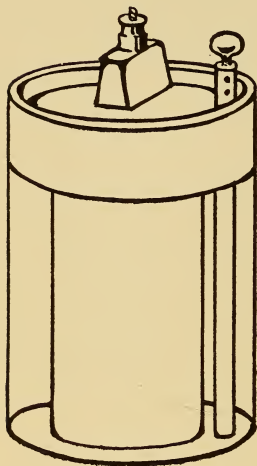

Fig. 29
*The Leclanché Battery.*—This form of open-circuit battery consists of a glass jar in which is placed the elements. One element consists of a rod of zinc, and the other element is carbon and powdered black oxide of manganese. These two (the carbon and black oxide of manganese) are placed in an earthenware vessel called a "porous cup." This is simply a small jar made of clay which is not glazed. Thus, the liquid which is in the glass jar penetrates through the porous cup to the carbon and manganese which it contains, and so the chemicals affect both these and the zinc at once, for, in order to obtain electricity, you will remember that the chemical action must take place at the same time upon both the elements in the same vessel. (Fig. 29.)